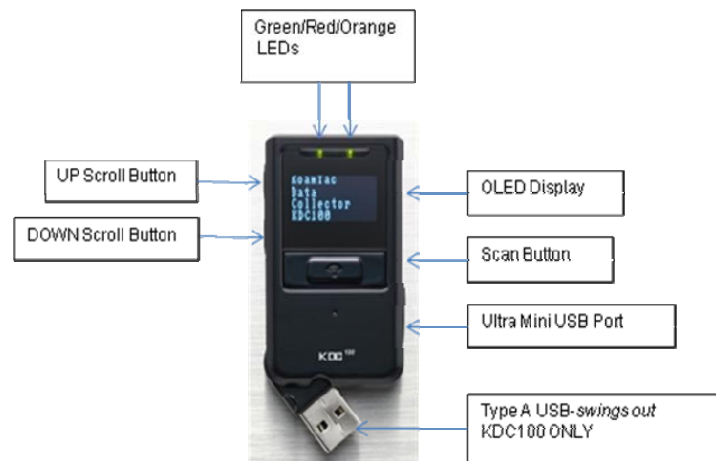

Figure 2 - Characteristics of KDC100
Before you use your KDC, please become familiar with its physical characteristics. Refer to Figure 2 and Figure 3 below which indicate placement of scan and scroll buttons, OLED display, LEDs, and ports on your KDC. All KDC models are similar except for the KDC100 which includes an additional USB connector.
**NOTE:** *If you have the KDC100, it has two ports, Ultra Mini and standard Type A which swings out. See Figure 2 for more details.*